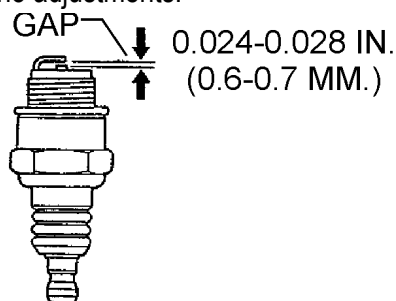

Figure 17. Spark Plug Gap
3. Remove and clean the spark plug (Figure 17), then adjust the spark gap to 0.028~0.031 inch (0.6~0.7 mm). This unit has electronic ignition, which requires no adjustments.